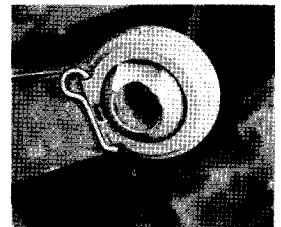

FIG. 9b
3. Fit the new ball by locating it with the narrow section in line with the slot, then refit the spring clip as shown in Fig. 9b.